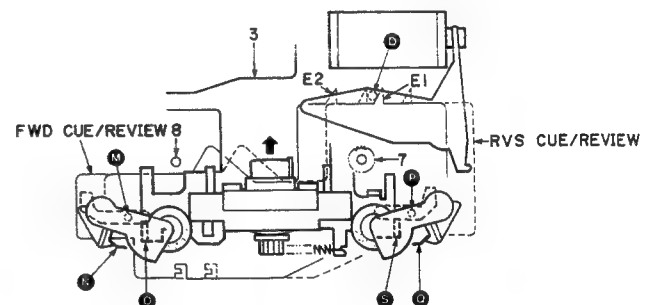

Fig. 22 (Perspective view from the front)
- 6-7) When the SUB-CHASSIS comes to the top, the SLIDER is in one of the positions of Fig. 22 shown in the diagram. In either case, the spring (N) (Q) of the pinch roller (L, R) is not lifted by the SUB-CHASSIS edge (C) (S), so the pinch roller is not pressed against the capstan.